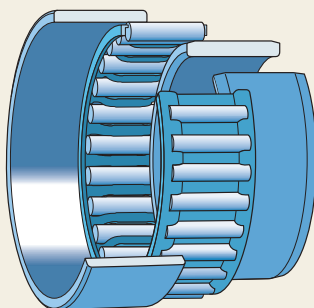

Fig. 20
- However, wide sizes incorporate two needle roller and cage assemblies immediately adjacent to each other and have an annular groove and a lubrication hole in the outer ring (fig. 20).